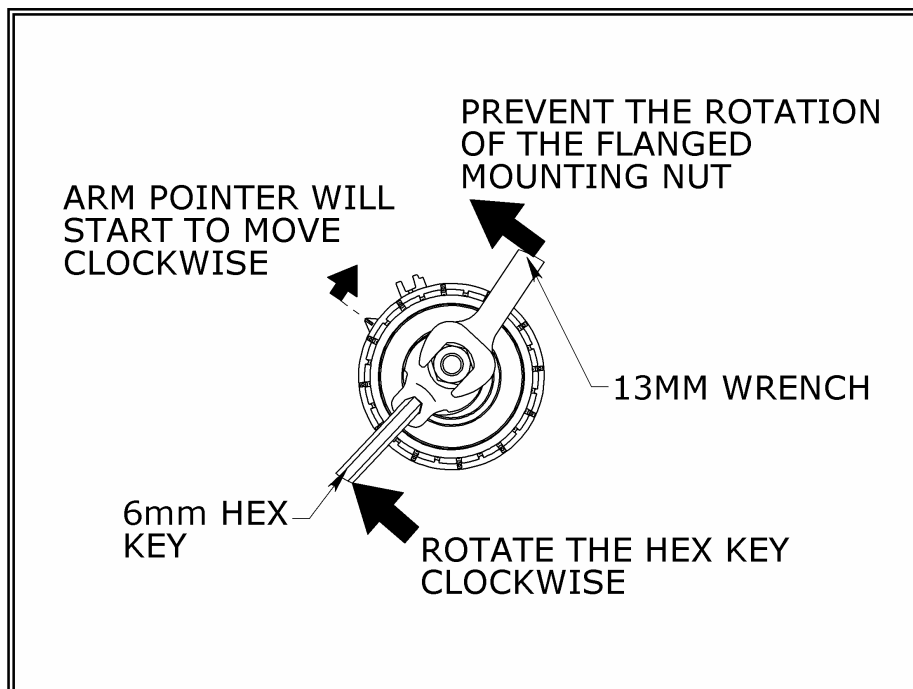

Figure 5: Timing Belt Tensioner Rotation direction during installation
8. Using a 13mm Wrench to prevent the rotation of the flanged mounting nut, rotate the Installation Shaft **CLOCKWISE** with a 6 mm Hex Key. The Tensioner assembly will move against the belt and the Arm Pointer will eventually start to move **CLOCKWISE** (Fig. 5).